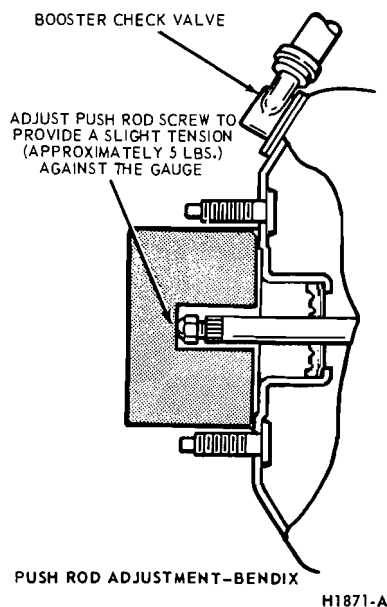

FIG. 4 Brake Booster Push Rod Measurement
2. Adjust the push rod screw to provide a slight tension against the inner edge of the adjustment gauge slot. (Approximately 5 pounds of tension against the push rod is required to assure that the push rod is firmly seated in the booster assembly). See Figure 4.